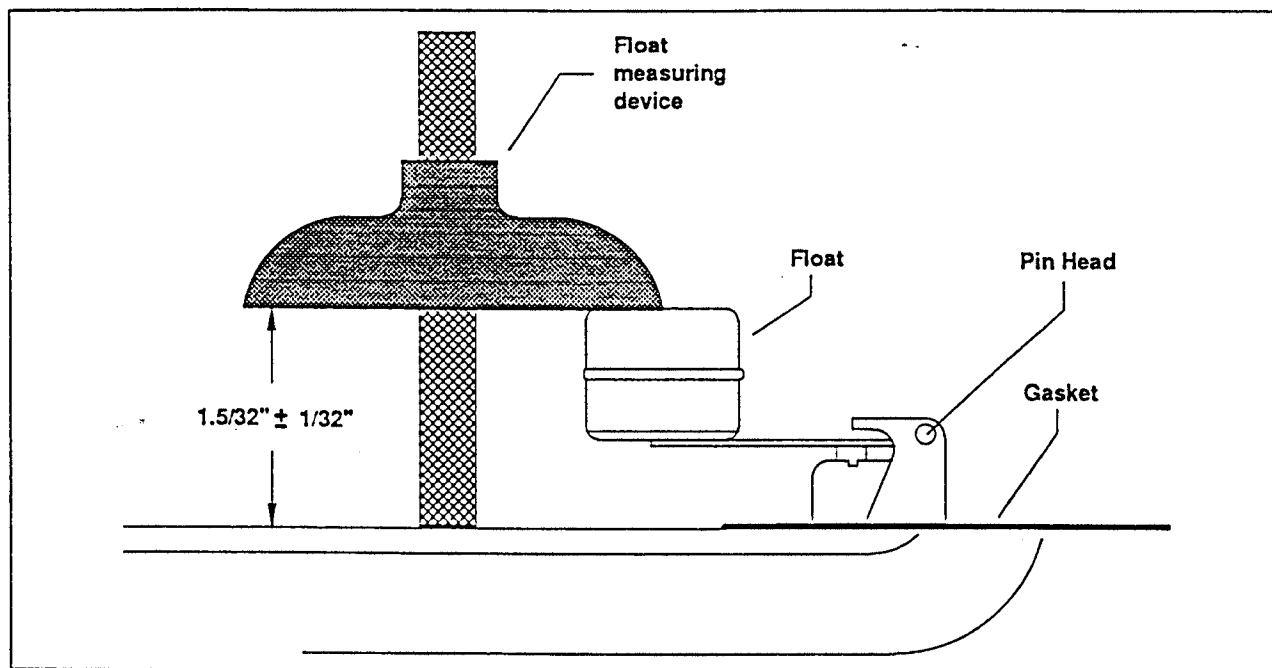

Figure 5 Setting the float
- 2 Bend the lever close to the float body until the position of the float matches the dimensions shown in Figure 5.